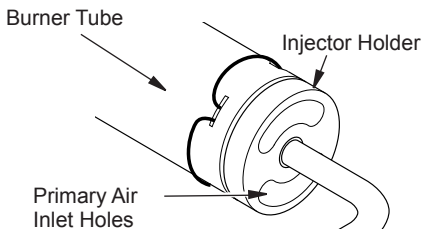

Figure 35 - Injector Holder On Outlet Burner Tube
2. Inspect burner, pilot and primary air inlet holes on injector holder for dust and dirt (see Figure 35).